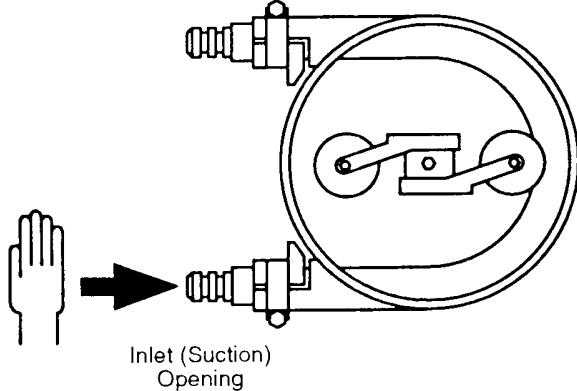

Fig. 6
3. Start the pump. Place the palm of your hand over the suction opening, and check whether the second roller (the one whose bracket is still secured) is compressing the hose enough to create a vacuum. See Fig. 6.